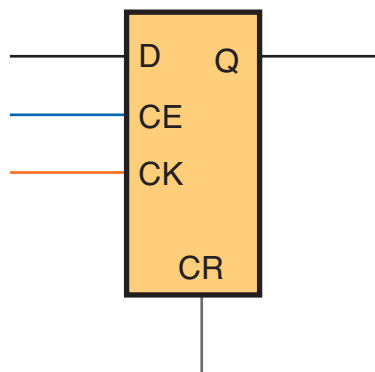

Figure 1 – Slice flip-flop control signals
The control set of a flip-flop is the clock input (CLK), the active-high chip enable (CE) and the active-high SR port. The SR port in a flip-flop can serve as a synchronous set/reset or an asynchronous preset/clear port (see Figure 1).